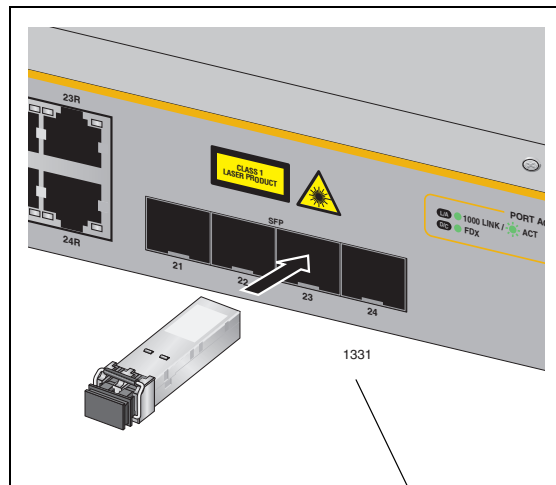

Figure 42. Positioning Handles on the x600-24Ts and x600-24Ts/XP Switches
5. For the x600-24Ts and x600-24Ts/XP switches, verify that the handle on the SFP transceiver is in the upright position, as shown in Figure 42, to prevent inadvertently removing the transceiver.